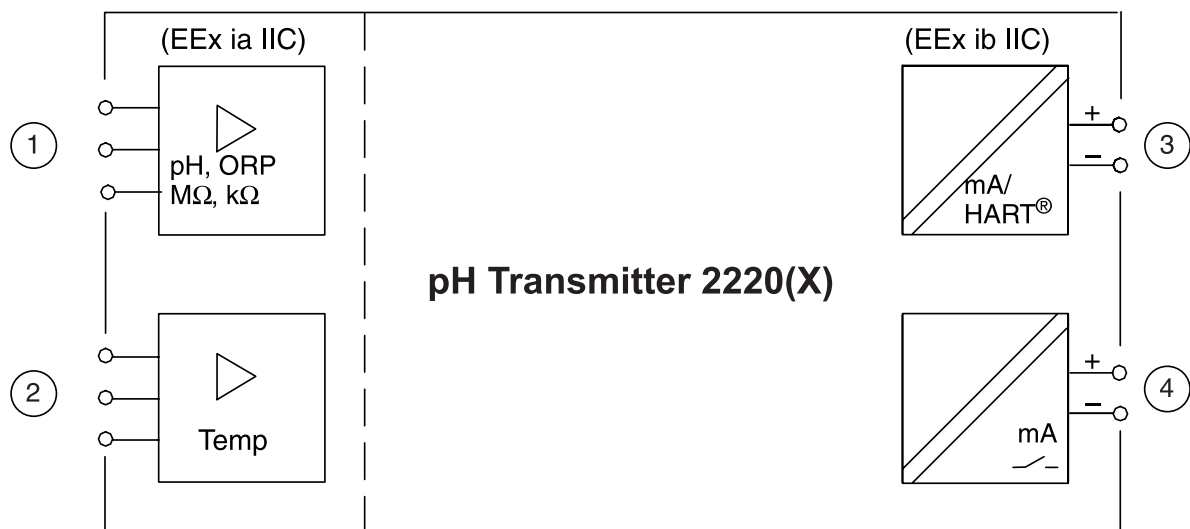

Fig. 2-1 System functions of pH Transmitter 2220(X)
Fig. 2-1 shows the system functions. In addition to inputs for glass and reference electrodes ① and a temperature probe ②, you can connect an equipotential bonding electrode that simultaneously serves as the auxiliary electrode for electrode monitoring (Sensocheck®).